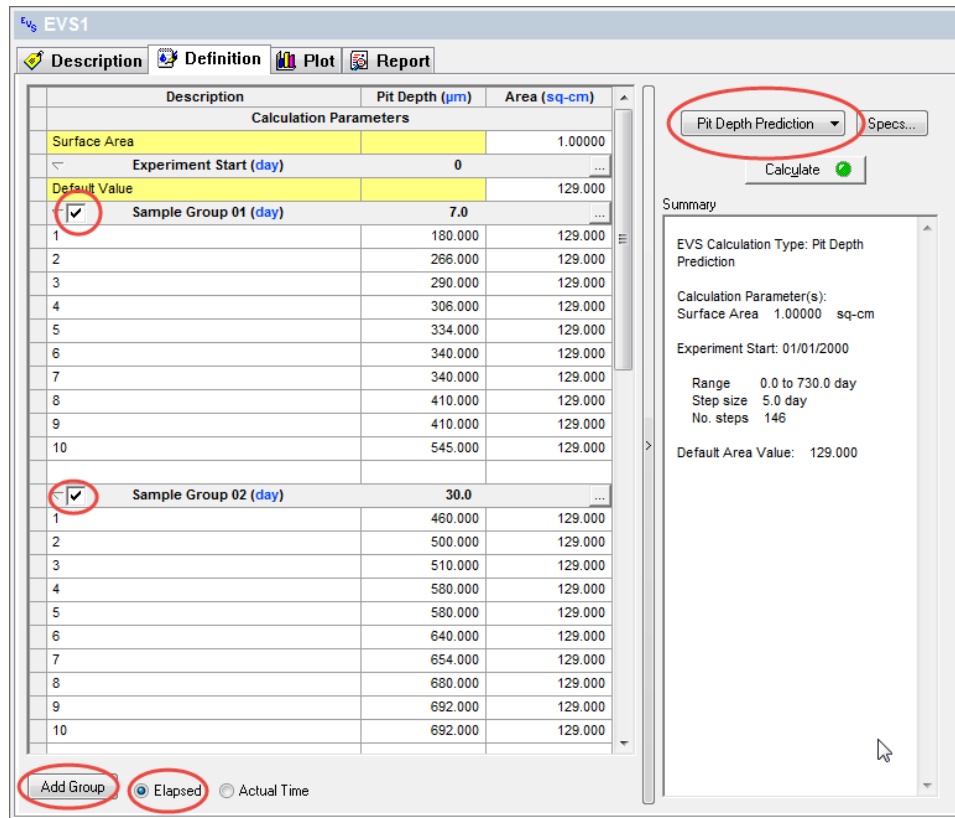

Figure 33-4: Specifying experimental data for depths of deepest pits (not completed)
After that, click on **Add Group** button (inside green oval), and in blank space type elapsed time = 30 days and insert all data from the third column for Sample Group 02. After inserting the data from Table 1 (from columns 1 and 3) the definition grid for EVS calculations should look like Figure 33-4.
- For each group, the order of samples relative depth can be arbitrary (not necessary in ascending order as in Table 1 or Figure 33-4).
- Radio button **Elapsed** (red ellipse in Figure 33-4) means the time after corrosion attack is used in calculations and namely this time is used usually in scientific publication. However it is possible to use also Actual Time of the experiments.
We will simulate the results of Aziz's experiments assuming that only data for short-time experiments (for 1 week and 1 month) are available. To include these data into calculations we must mark the boxes (black ovals in Figure 33-4). It can be done also by using the drop-down menu for adding groups (see Figure 33-4). All others group (Groups 03 – 05) must not be marked.